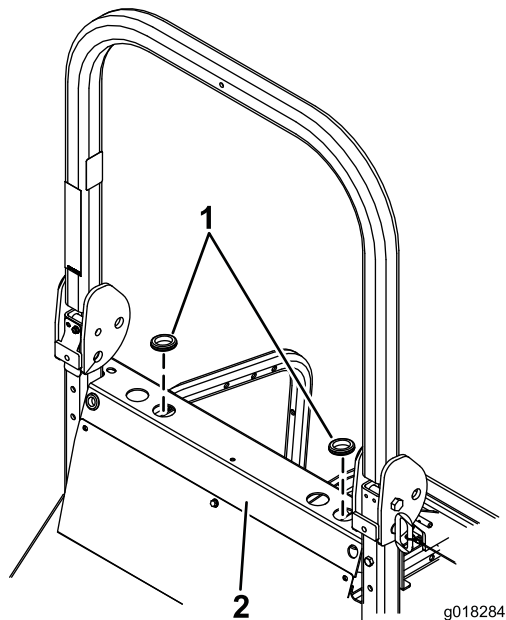

Figure 8
12. Insert a rubber grommet into each frame cross member hole (Figure 8).